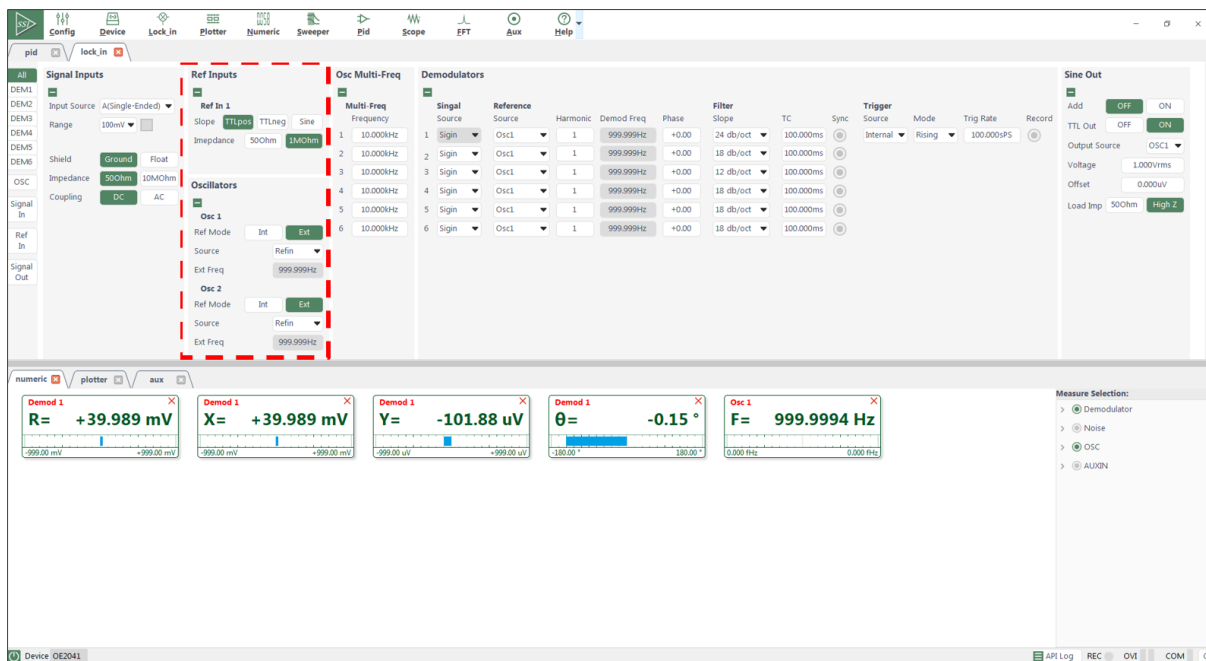
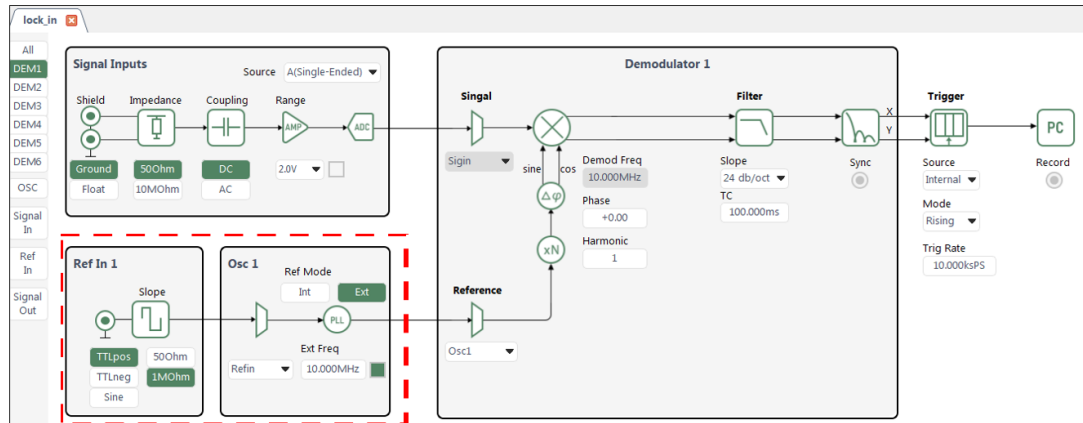

Figure 33. Reference Signal Configuration
Figure 34. Reference Signal Configuration Area in the Flow Diagram
2. According to the configuration in Table 2, set the reference signal source type to external reference in the reference signal configuration area. Keep the other options at their default values. As shown in Figure 33 and Figure 34, select either method to make the changes.